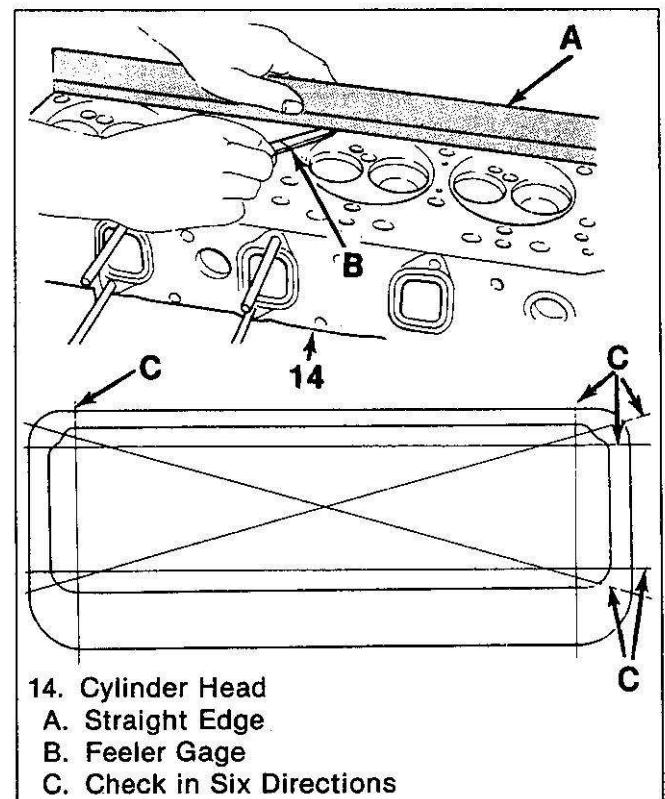

Figure 30. Checking Cylinder Head Distortion
- Cylinder head gasket surface for distortion. Use a straightedge and feeler gage as shown in figure 30. Check in six different directions, as shown. If the cylinder head is distorted more than 0.2 mm (0.008 in), it must be replaced or resurfaced. The minimum allowable thickness of the cylinder head (item A, figure 27) after resurfacing is 89.75 mm (3.533 in).